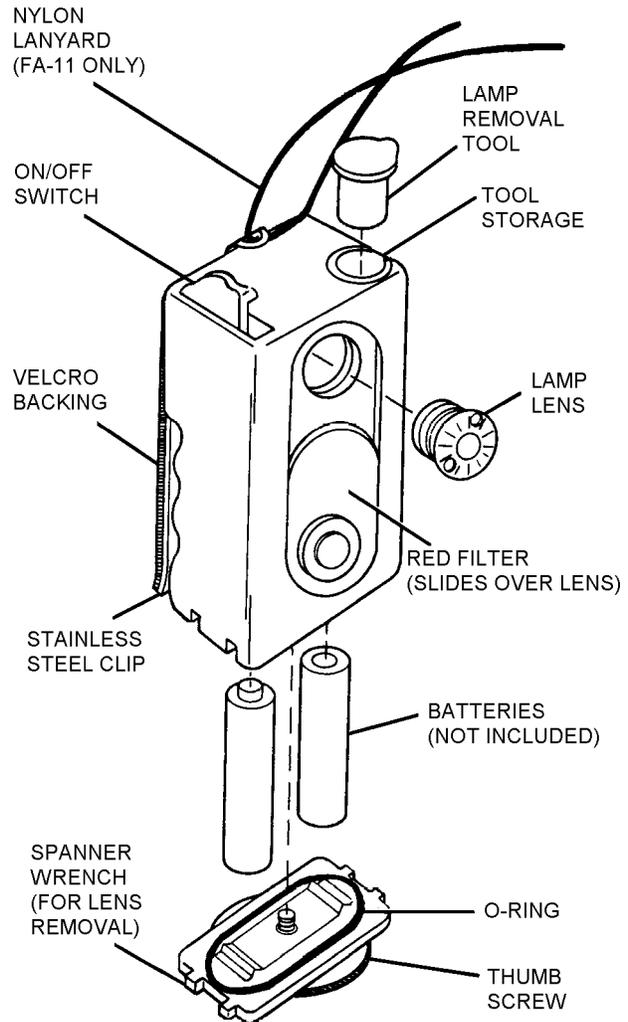

Figure 12-9. ACR/FA-11 and ACR/FA-11(M) Crew Light
12-96. The ACR/FA-11 and ACR/FA-11(M) crew lights consist of a lamp lens; red sliding filter; switch; battery case; bottom cover (battery retainer); lanyard (ACR/FA-11 only); velcro backed belt clip; and a lamp extraction/installation tool which is discretionary with Type Commanders. The crew light is powered by two standard size AA (1.5V) batteries (figure 12-9).